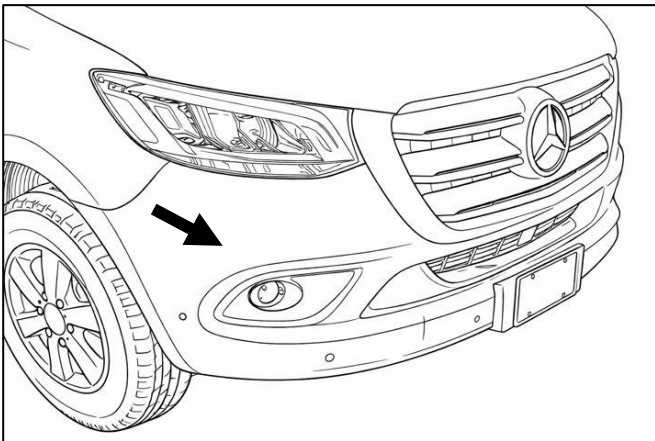

Figure 7: Direction to Remove Stock Bumper
8. ☐ Pull the bumper away from the vehicle to unclip it, starting at each wheel well and working towards the center. **See Figure 7.**